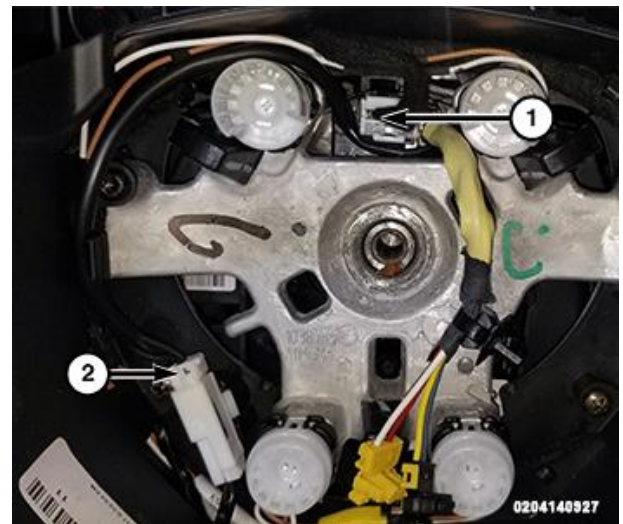

Figure 8 – Wire Harness Connectors
16. Disconnect the wire harness connectors (1) and (2) (Figure 8).
14. Connect the wire harness connectors (1) and (2) (Figure 8).